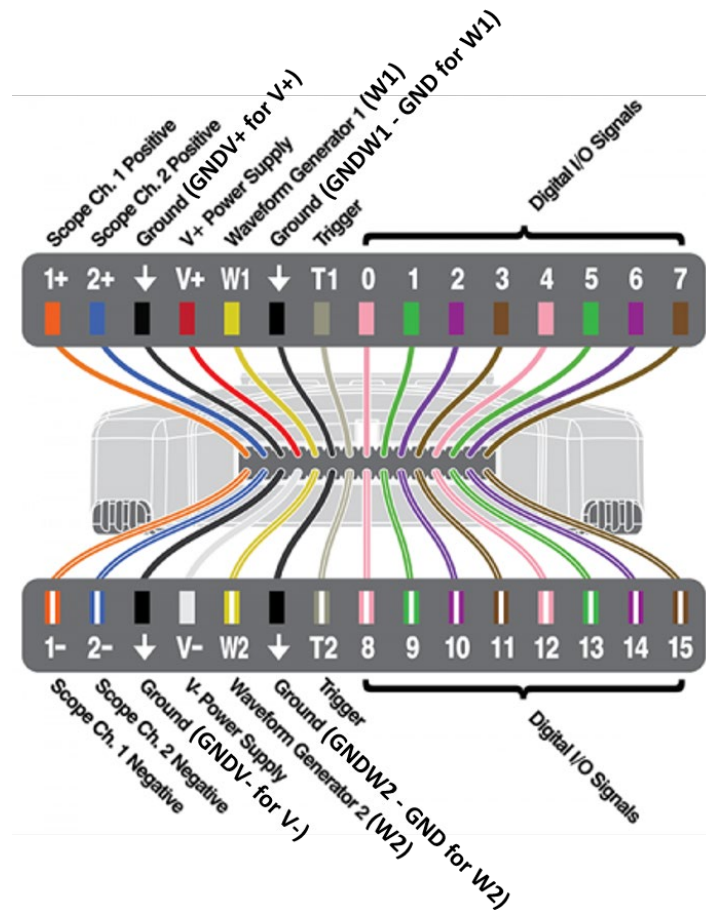

Fig. 3 Diagram for the port definition of an Analog Discovery 2 (AD2)
- 1.8 Use the port definition diagram of AD2 shown in Fig. 3 when setting up your experiments.